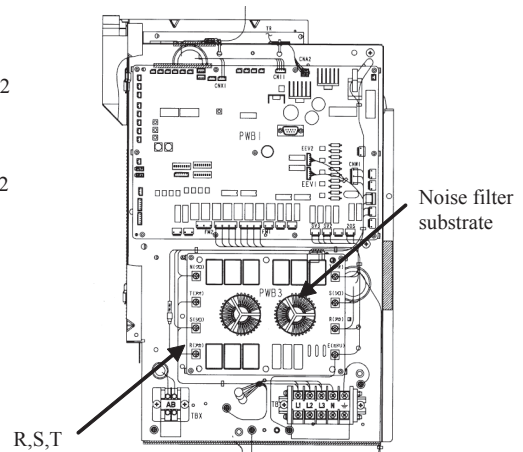

Fig. 1 The front of control
(Be sure to measure voltage (DC) on both capacitor terminals located in controller back, and check that the voltage is discharged sufficiently. (Refer to Fig.1))
- a) Replace the inverter PCB after 10 minutes from power OFF. (Be sure to check that LED (LED1,2) of the inverter PCB put out the lights. It measures that the voltage (AC) between terminals (R,S,T) on the noise filter PCB (see Fig 1) is discharged sufficiently.)